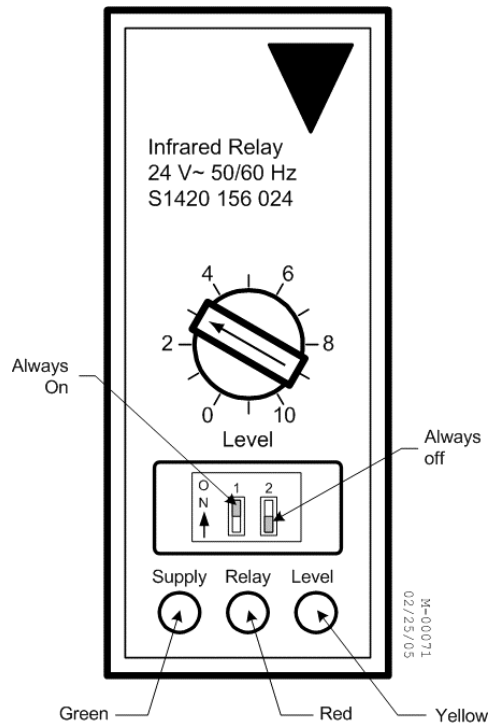

Figure 3-15: Photocell Amplifier
3. Adjust the sensitivity of the amplifier by turning the Sensitivity Adjustment knob and the two dipswitches. See Figure 3-15.